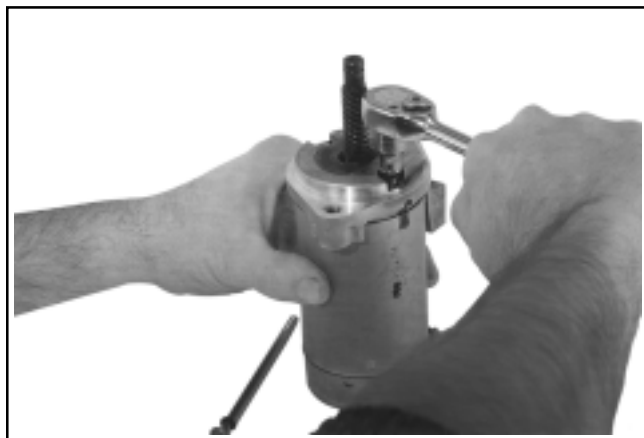

Figure 8-30. Removing Starter Thru Bolt.
4. Remove the two thru bolts, with sealing O-Rings, from the starter. See Figure 8-30.